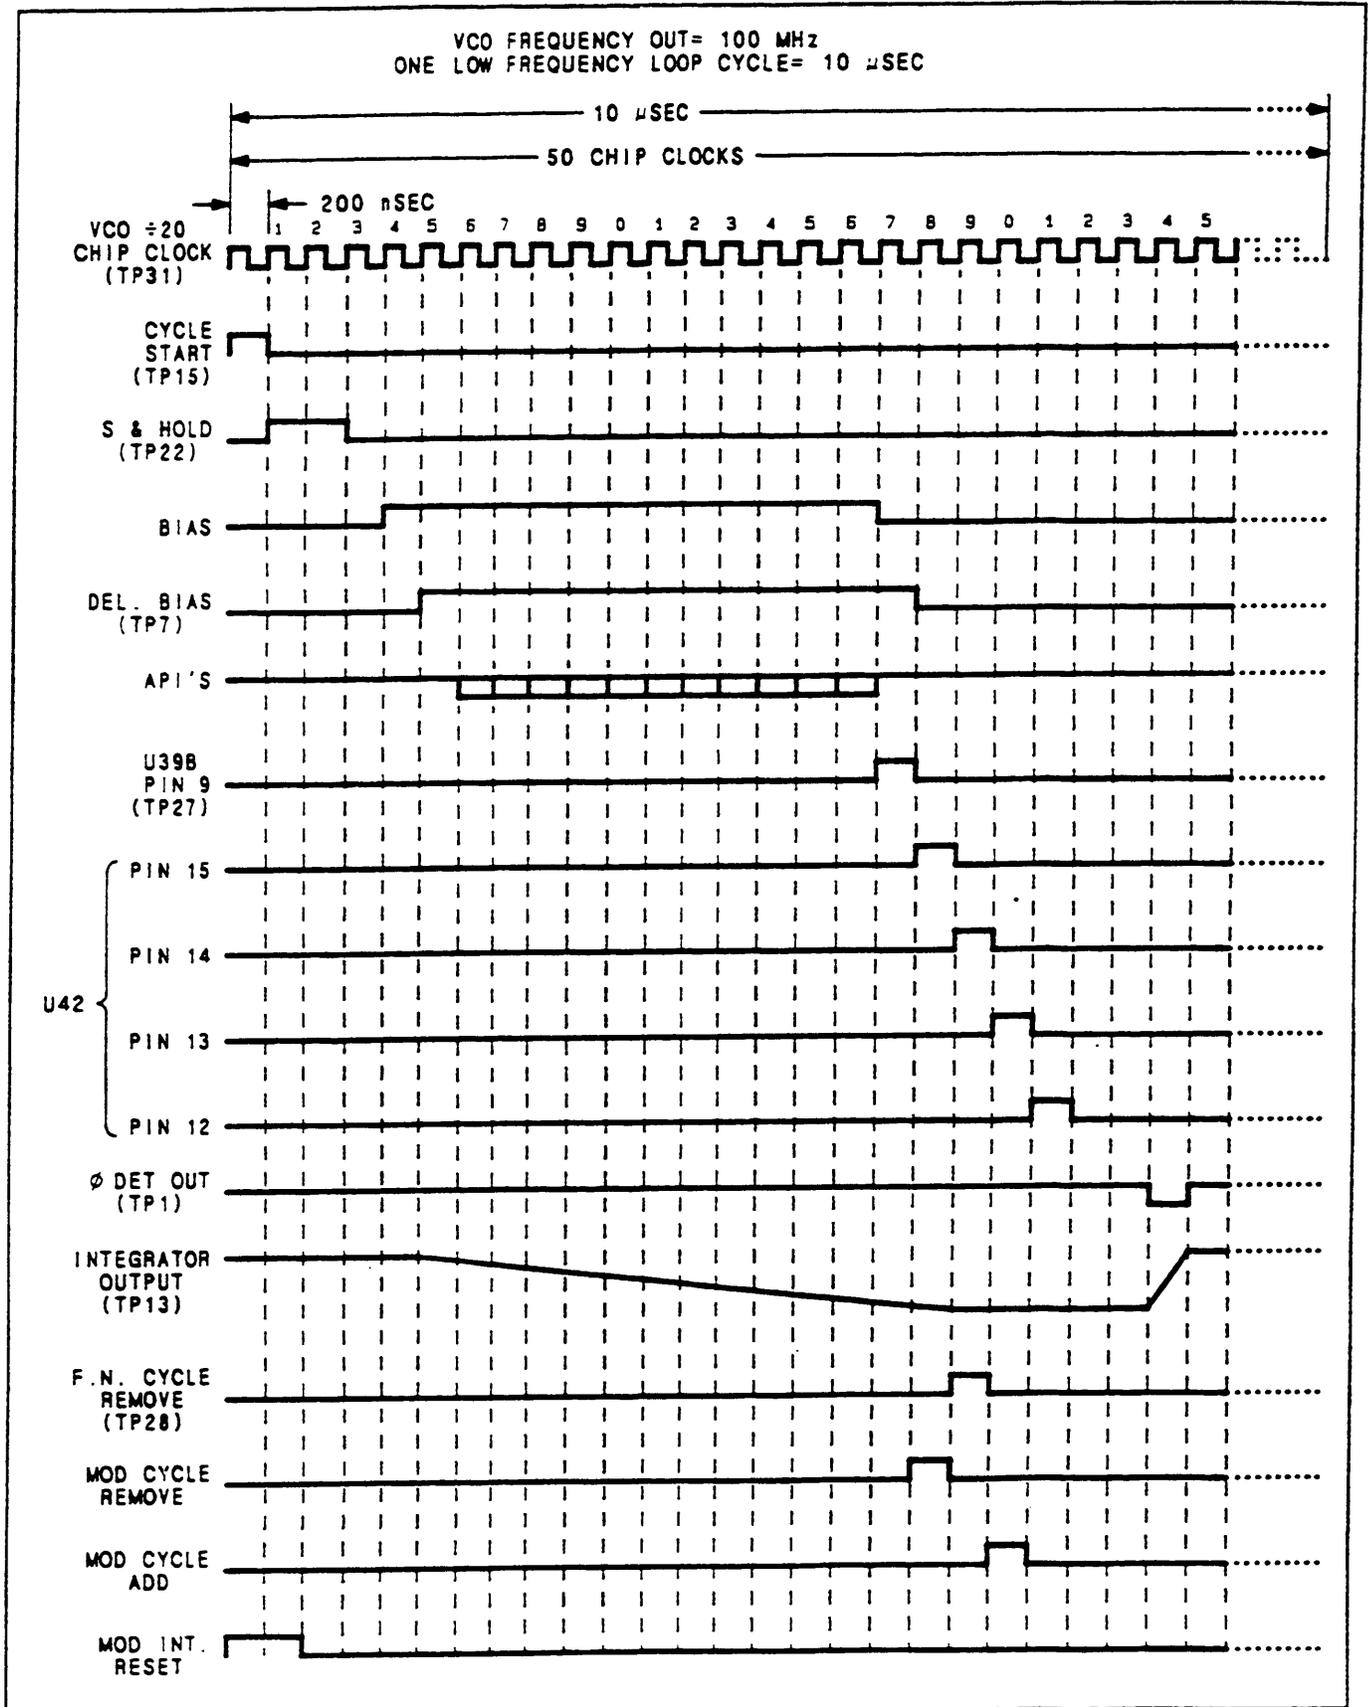

Figure 8. Low Frequency Loop Timing Diagram.
Digital data is written from the main Microprocessor to the Low Frequency Loop Microprocessor (Service Sheet 11) when its frequency is changed, when frequency modulation (AC or DC) is selected, turned off, changed or calibrated. The digital data consists of instructions and data. Instructions select frequency modulation and controls when a frequency modulation calibration is performed. Instructions and data are sent from the Low Frequency Loop Microprocessor to the Fractional-N Controller which handles all instructions and data to lock the Low Frequency Loop at fractional frequencies (refer to the Low Frequency Loop Timing Diagram Figure 8). The Fractional-N Controller converts the data to its nine's compliment and transfers the data to the Divide-By-N Latches. The nine's compliment data is used by the Divide-By-N Counters, clocked by the Chip Clock output of the Prescaler, to generate the VCO Divide-By-N.F. 100 kHz pulse input to the Phase Detector. The output pulse of the Phase Detector (Service Sheet 13) determines the length of time Phase Detector current is active and the voltage output of the Loop Integrator is changed. The output of the Loop Integrator is stored on the Sample and Hold Capacitor and corrects the output frequency of the VCO.
1. Check the Cycle Start pulse at A3TP15. Refer to Figure 8 Low Frequency Loop Timing Diagram. If the pulse is not present go to Service Sheet 11.
2. Check the voltage waveform output of the Integrator at A3TP13. Refer to Figure 8. If the waveform is not correct go to Service Sheet 12.
3. Check the Bias Control pulse at A3TP10. Refer to Figure 8 (Bias Pulse). If the pulse is not correct go to Service Sheet 11.
4. Check the API Control Delayed Bias at A3TP7. TP7 should be approximately -7 to +1 volt pulse, one Chip Clock less than the Bias Pulse. Refer to Figure 8. If the pulse is not correct go to Service Sheet 11.